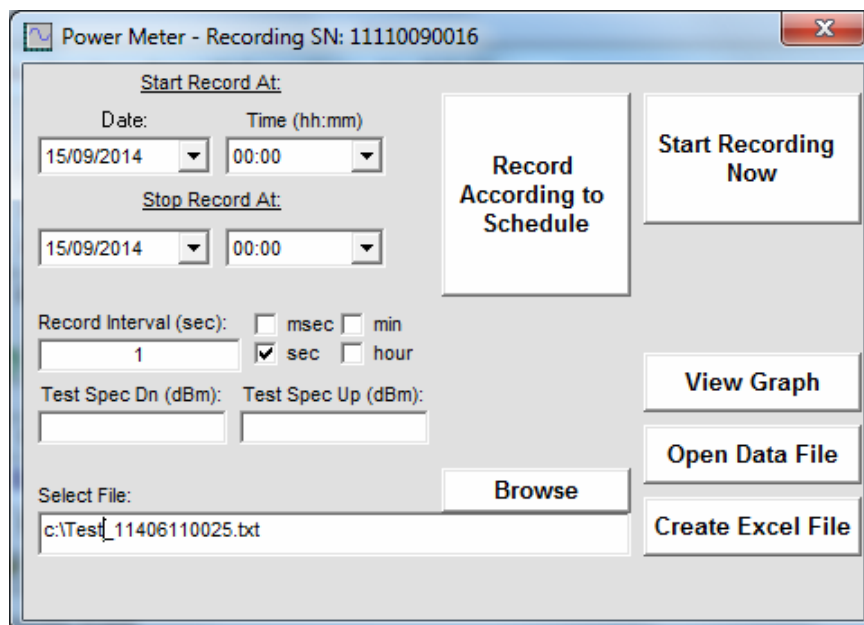
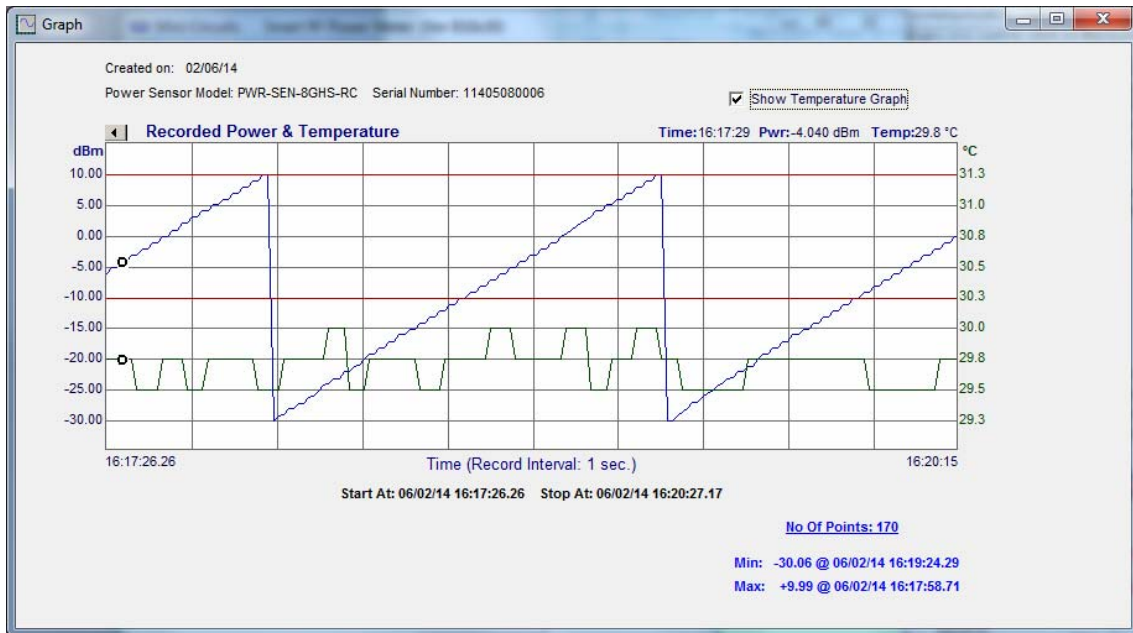

Figure 3.6: Data Record Window
Figure 3.6.3: View Graph Window
3.6.1 *Left side of Screen (Fig. 3.6)*
3.6.2 *Right side of Screen (Fig. 3.6)*
Clicking on the 'View Graph' button in the data record window (**Fig 3.6**) will open a graphical presentation of the recorded data(**Fig 3.6.3**). Default presentation is of power only, using the same units as the data was recorded in, but user can select to present both power and temperature by checking 'Show temperature graph' or change the power units by clicking on the arrow next to the graph title.